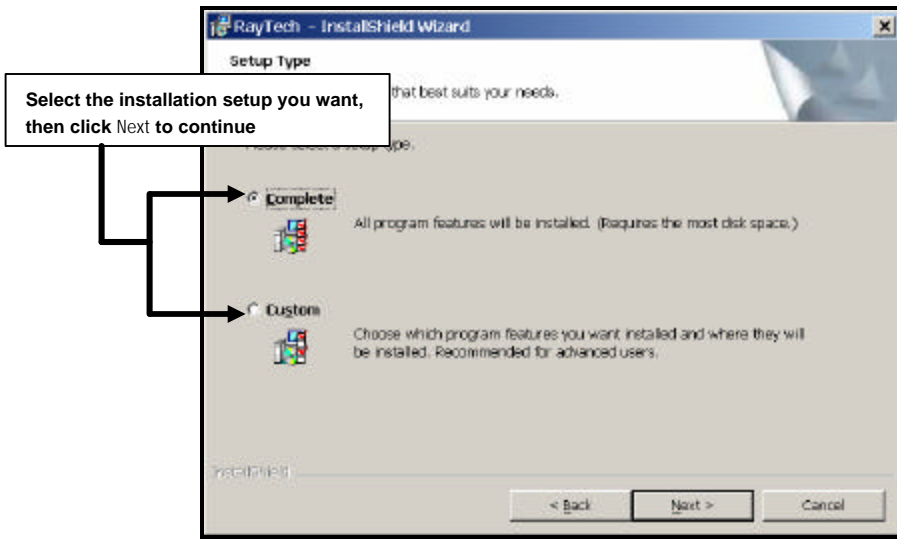

Figure 2-4 InstallShield Wizard Setup Type Screen
4. Type the name of the person and the organization to whom this version of Navigator is being licensed, then choose whether you want Navigator to be used just by that specific individual or by anyone with access to the computer. Click **Next** to display the ISW Setup Type screen (Figure 2-4).